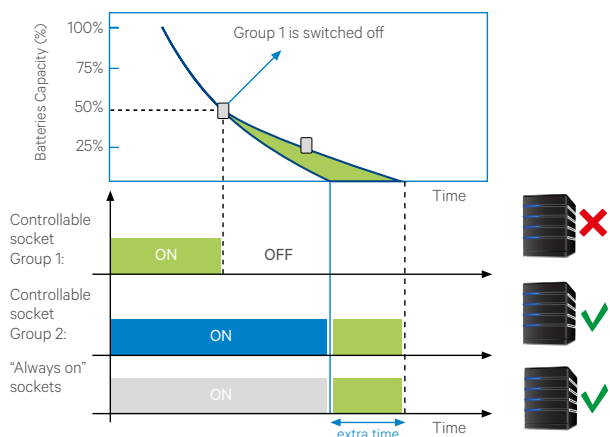
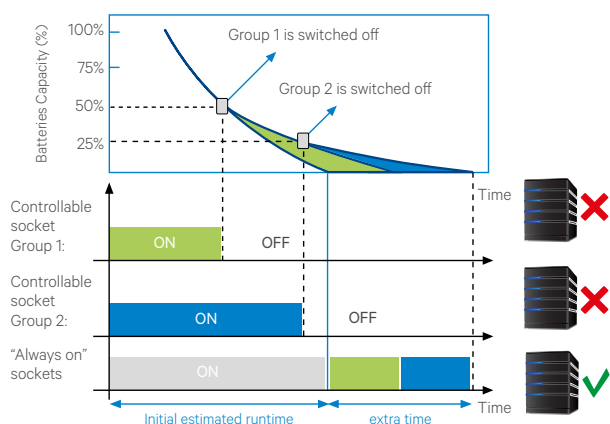

Figure 1: Operation of programmable sockets.
Figure 2: Operation of programmable sockets
- In battery mode, the energy stored in the batteries can be used for the most critical loads. Less battery usage (cycles and depth of discharge), or alternatively, longer autonomy can be achieved for the most critical loads. Fig.1 shows how the autonomy time for the priority loads connected to several sockets is augmented as soon as low priority loads are disconnected (only Group 1 switched-off in this image). In Fig. 2, a second case is represented, where both “Group 1” and “Group 2” are sequentially disconnected to gain extra runtime for the group of sockets that are “always-on”.